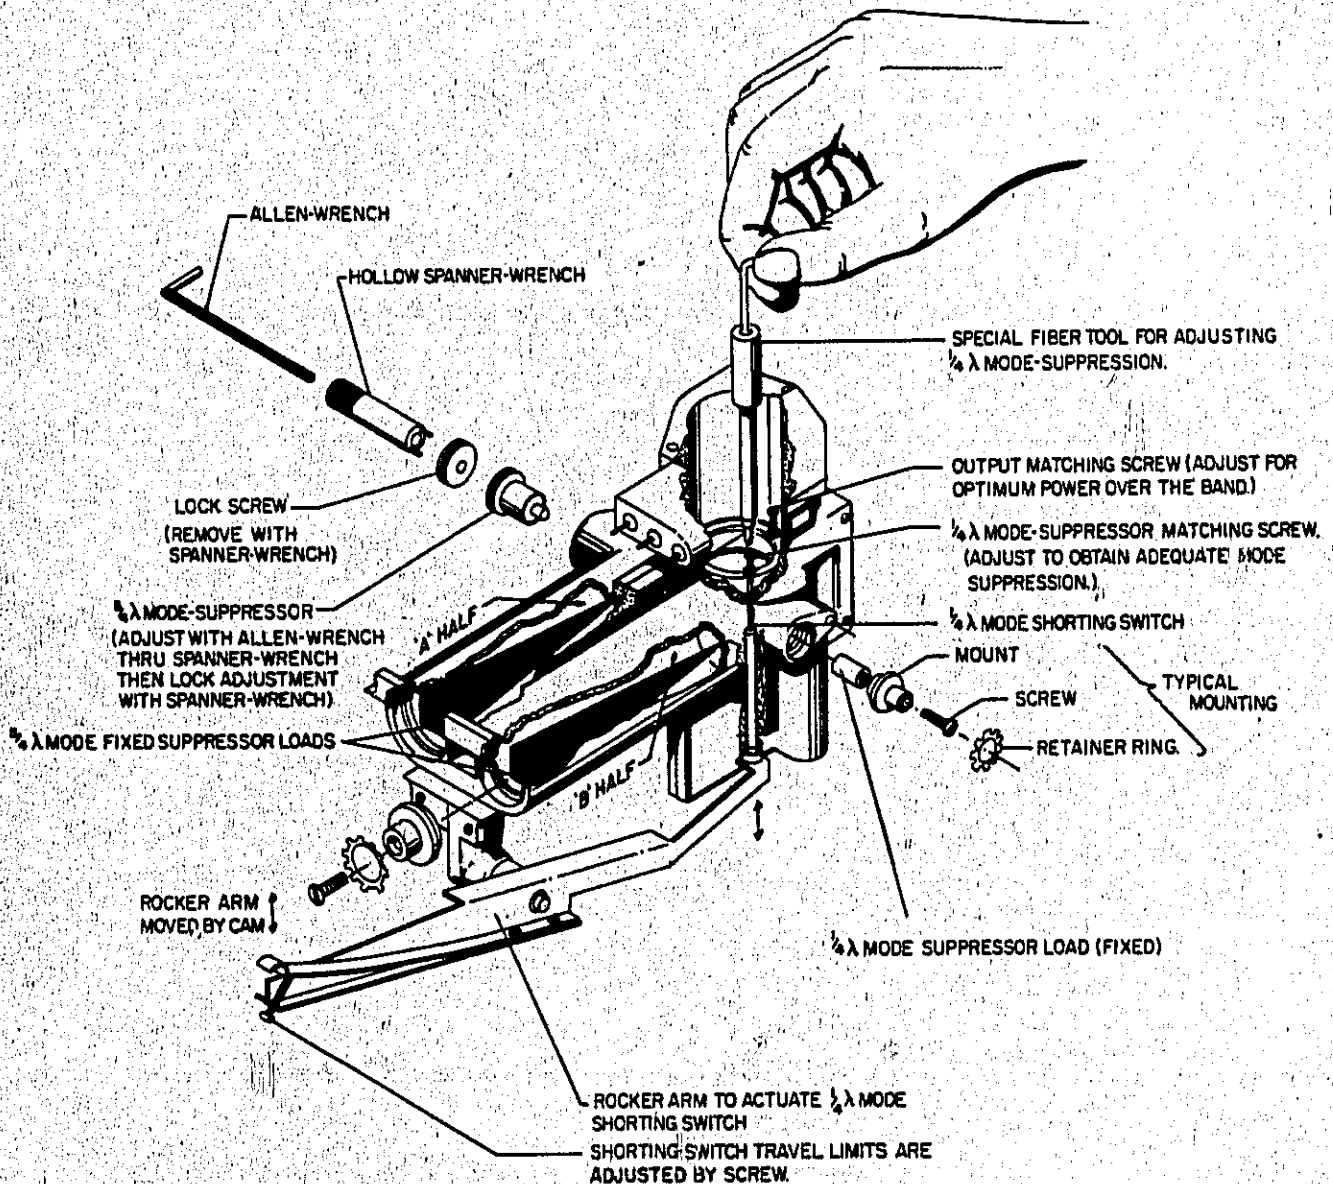

Figure 5-13. Adjustment of Mode Suppressors and Output Matching Screw
c. Adjust the $1/4$ wave mode suppressor matching screw to eliminate interference. Use the special fiber tool supplied with the instrument and refer to Figure 5-13.
f. To suppress this mode, adjust the 5/4 wave mode suppressor shown in Figure 5-13. Another special tool is provided to assist you in this adjustment; it is the small hollow spanner wrench secured inside the chassis. After unthreading lock screw insert a No. 10 allen wrench through it to adjust suppressor. After achieving the desired suppression, lock suppressor in place.
5-53. OUTPUT POWER RESPONSE ADJUSTMENT. After satisfactory tracking has been obtained and undesired modes suppressed, the output matching screw must be adjusted as shown in Figure 5-13.